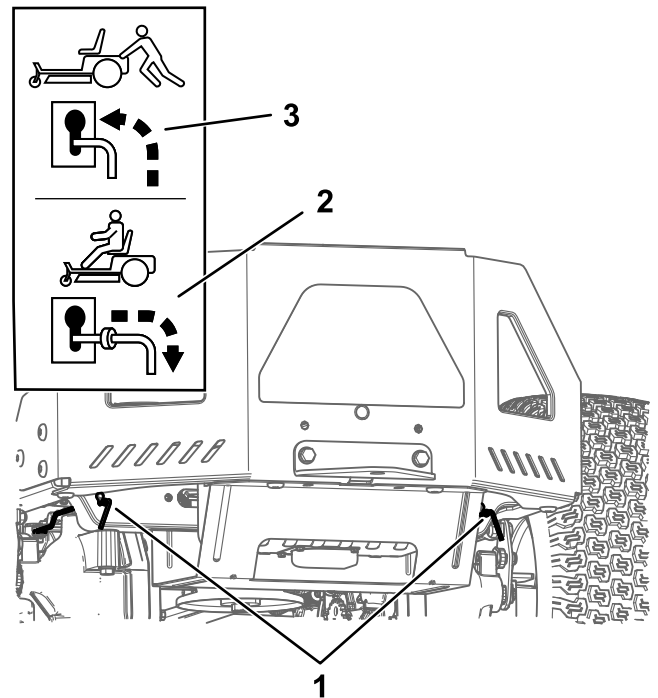

Figure 26
4. Move the bypass levers forward through the slotted hole and down to lock them in place (Figure 26).
Move the bypass levers rearward through the keyhole and down to lock them in place as shown in Figure 26.